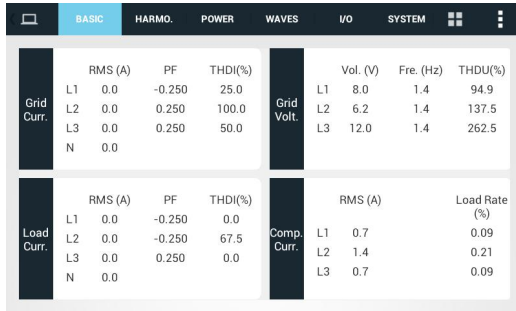

Figure 6-3 Real time info
- ◆ Click “BASIC” button on the bottom menu in the main interface to enter the real-time info interface (real-time info includes basic information of voltage and current, dry contacts information, harmonic analysis information and power information). As shown in Figure 6-3, user can check information about grid voltage, grid current, load current and compensation current;